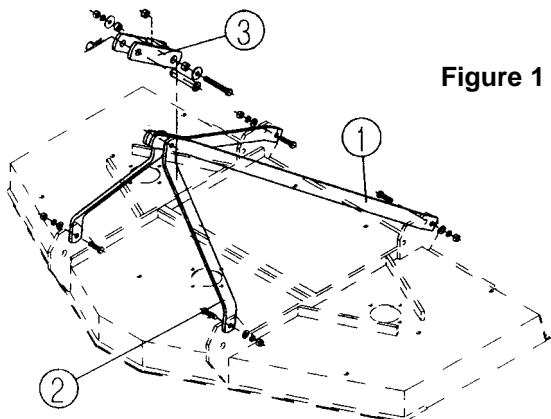

Figure 1
Refer to the “exploded views” of this manual and **figure 1**. Attach the rear brace bars (1) to the lugs on the rear of the deck with the correct hardware. Attach the A-Frame bars (2) to the lugs on the front of the deck. Connect the upper ends of the A-Frame bars with the rear brace bars and swinging top link clevis together with the M12 bolt, washers, spacer and locknut.